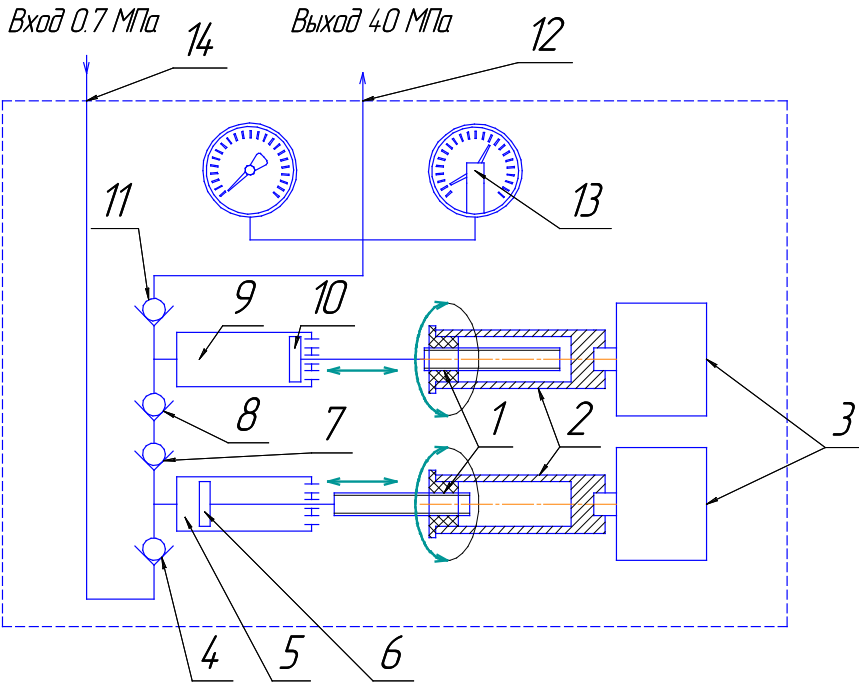

Fig. 2.
4.3 An internal mechanism is a two-stage compression system (Fig. 2).